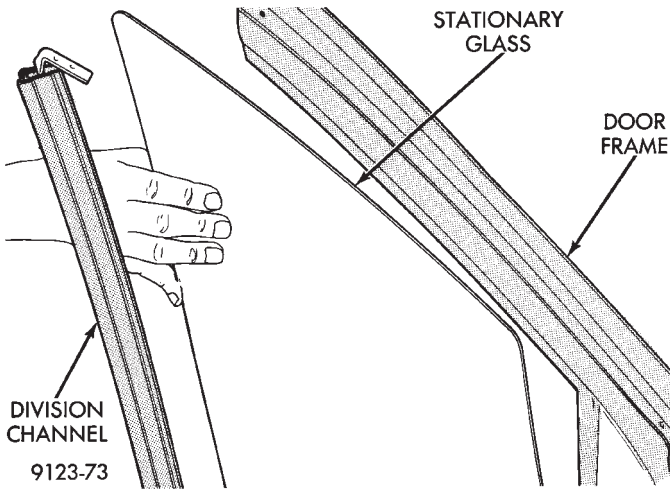

Fig. 23 Front Door Stationary Glass
- (3) Separate division channel from stationary glass and remove glass from door (Fig. 23).
- (4) Lift division channel upward, out of the door.
- (5) Pull the stationary glass weatherstrip from the division channel.